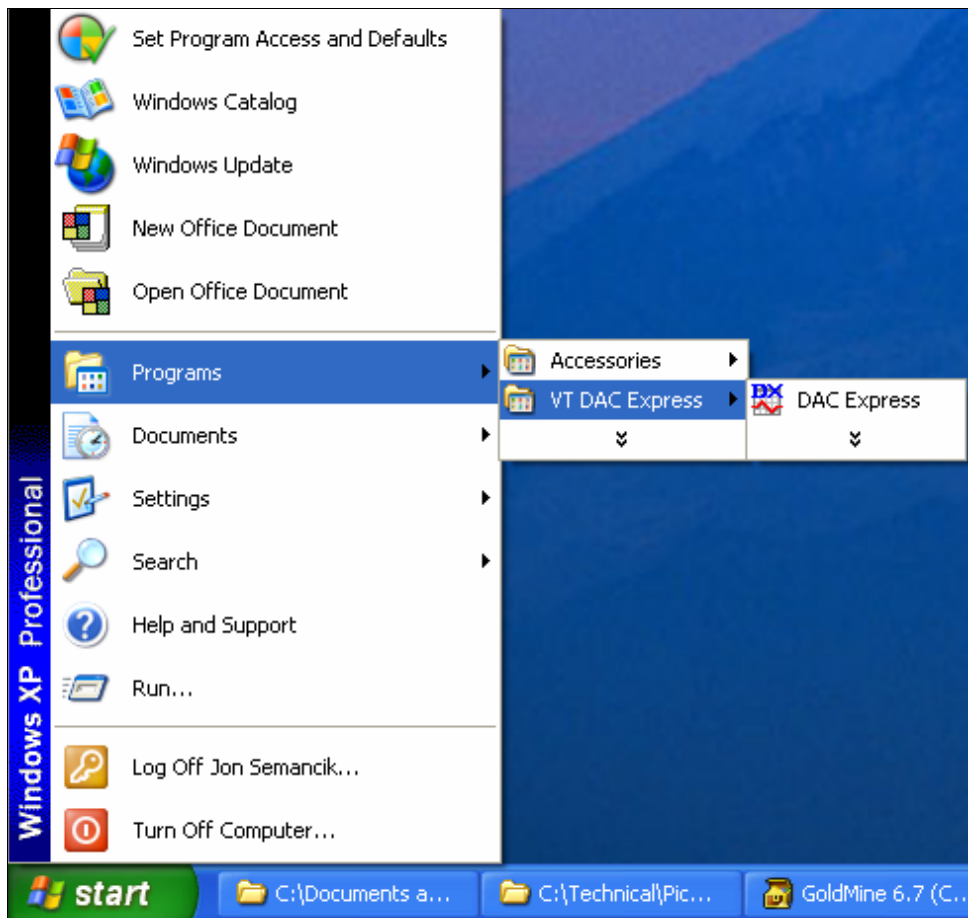

FIGURE 3-1: DAC EXPRESS NAVIGATION PATH
- 1) Launch DAC Express. Navigate to **Start** → **VT DAC Express** → **DAC Express** (see Figure 3-1).